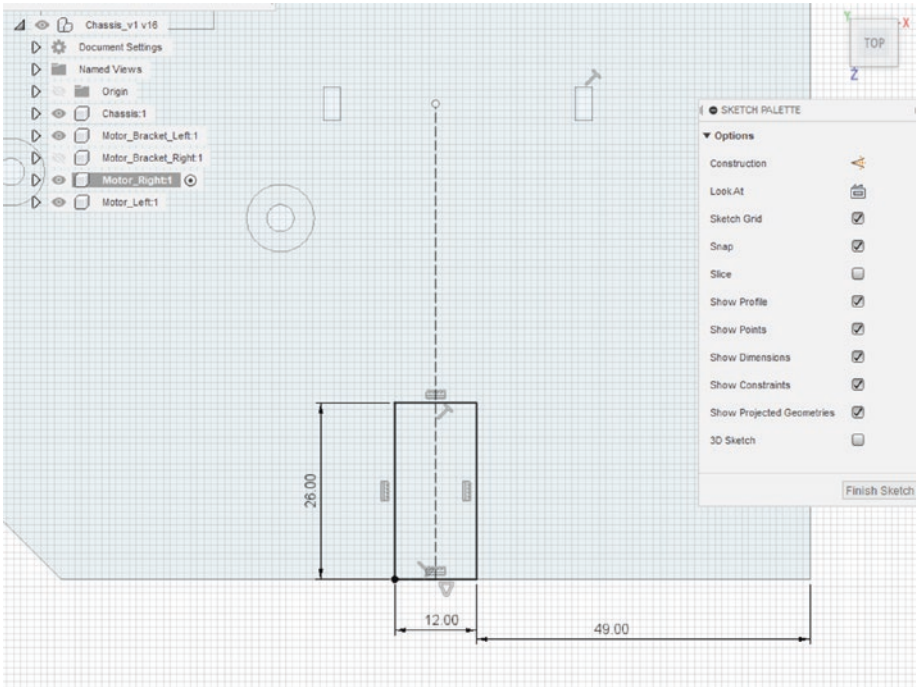

Figure 6-61. Create a rectangle for the right motor
20. Create a rectangle 49mm from the back of the chassis. See Figure 6-61 for all the measurements of the motor. Where did I get these measurements? I went to the distributor and looked at the datasheet of the motor. Later, in this book, I will show you how to import 3D models that have already been created. Making this representation of the motor is nice because it allows us to create a model around it.